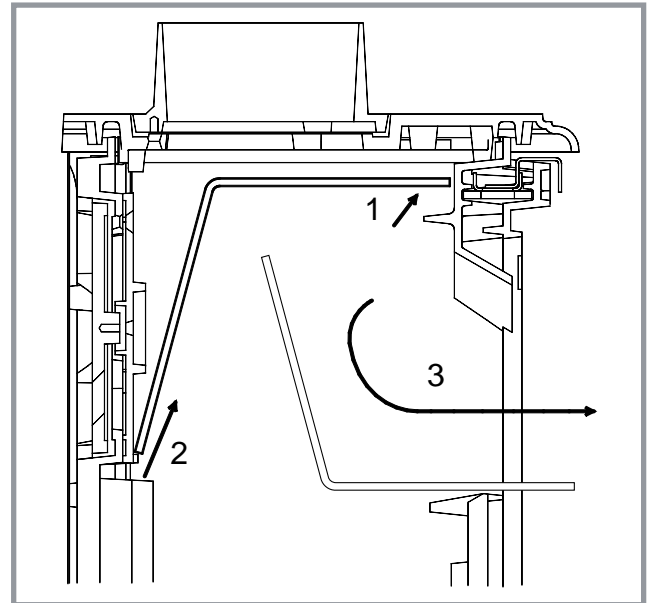
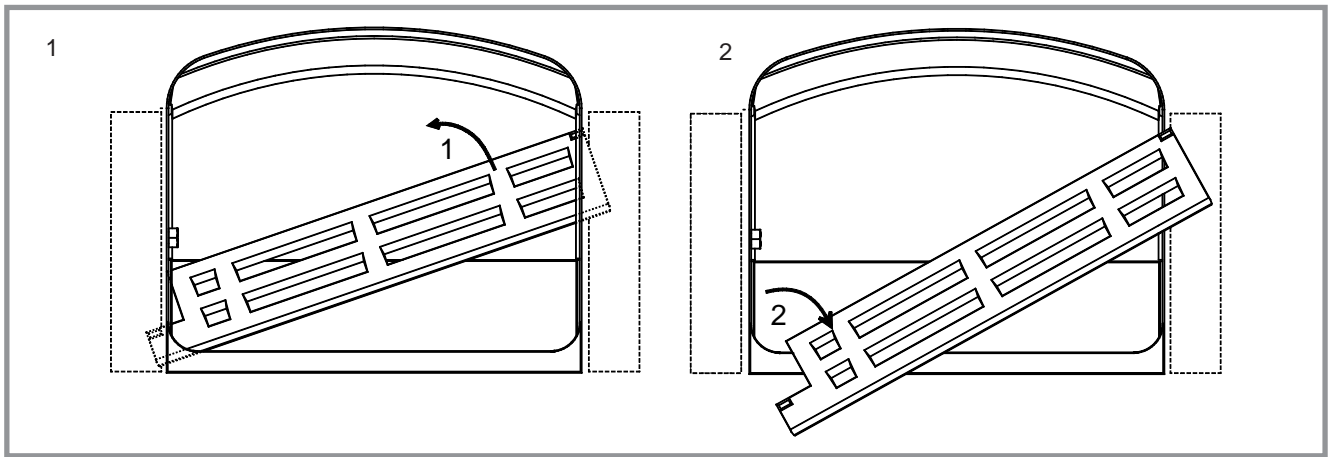
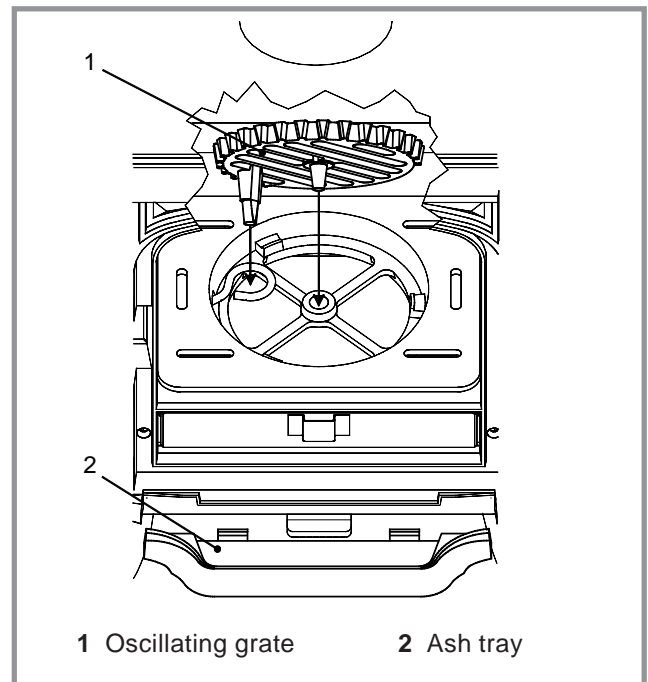

Figure 3 - Removing the flue baffle
Figure 9 - Removing the fuel retainer
Figure 10 - Mounting the oscillating grate and the ash tray
- Check that all removable parts are correctly installed (fuel retainer (fig. 9), oscillating grate (fig. 10), baffle (fig. 3) etc...
- Fit the ash tray, located in the ash pan, between the front legs (rep. 2, fig. 10).